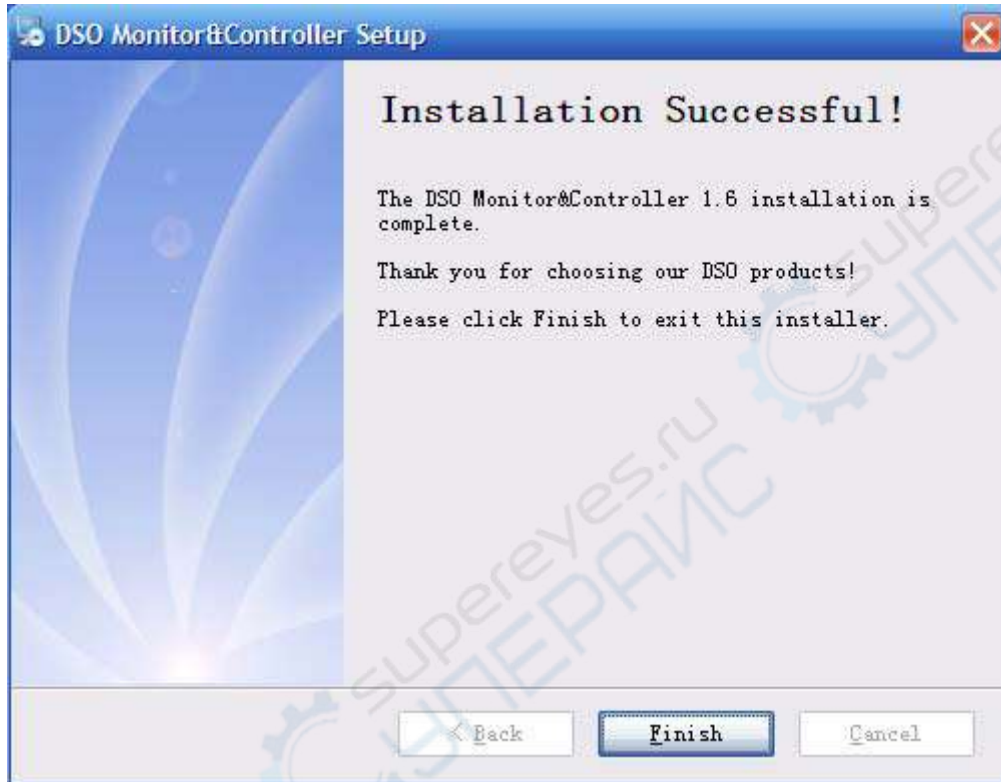

Figure 1-7
**Step seven :** When automatic installation is complete and the box shown in Figure 1-7